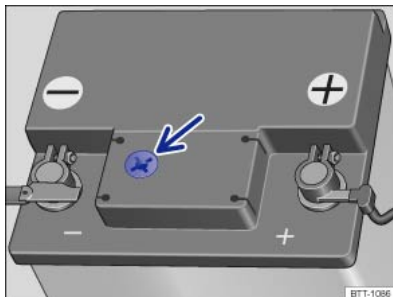

Fig. 233 Battery window on the top of the 12-volt vehicle battery (illustration).
- Ensure that enough light is available for you to clearly see the colours in the round window on the top of the 12-volt vehicle battery ⇒ *Fig. 233* (arrow). Never use naked flames or glowing matter (e.g. cigarettes) as a light source.